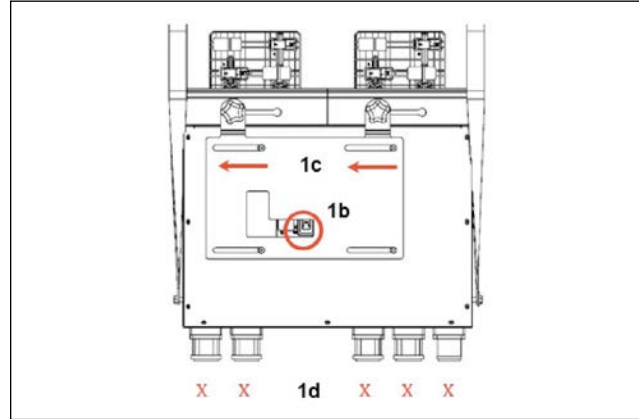

Figure 3. Prerequisites
- b. The circuit breaker on the LBTOB must be OPEN or OFF (Figure 3).
- c. Both contact engagement knobs should be fully in the left position so that the contacts on both masts are completely recessed (Figure 3).
- d. The load bank should not be attached to the LBTOB (Figure 3).